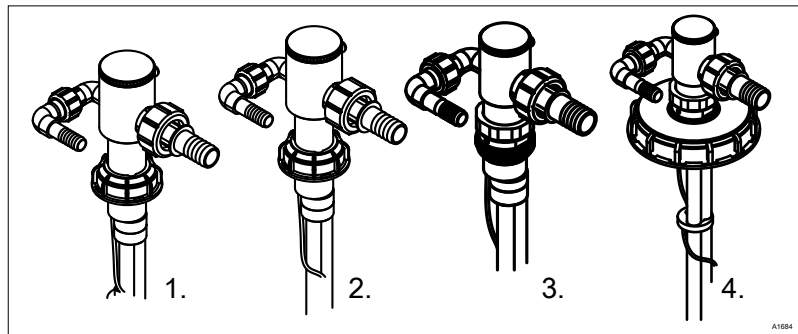

Fig. 2: Universal suction lance cover
- 9.** ▶ You can screw the cover of the universal suction lance onto the storage tank, or screw the universal suction lance into the opening in the storage tank, see Fig. 2.